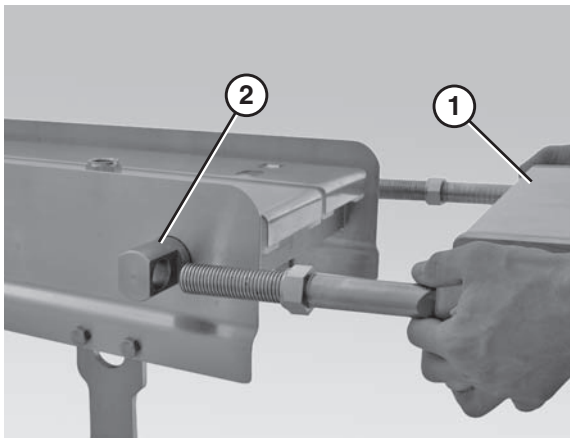

Figure 69
2. Slide the nose bar tail assembly (**Figure 69, item 1**) out of the take up blocks (**Figure 69, item 2**).